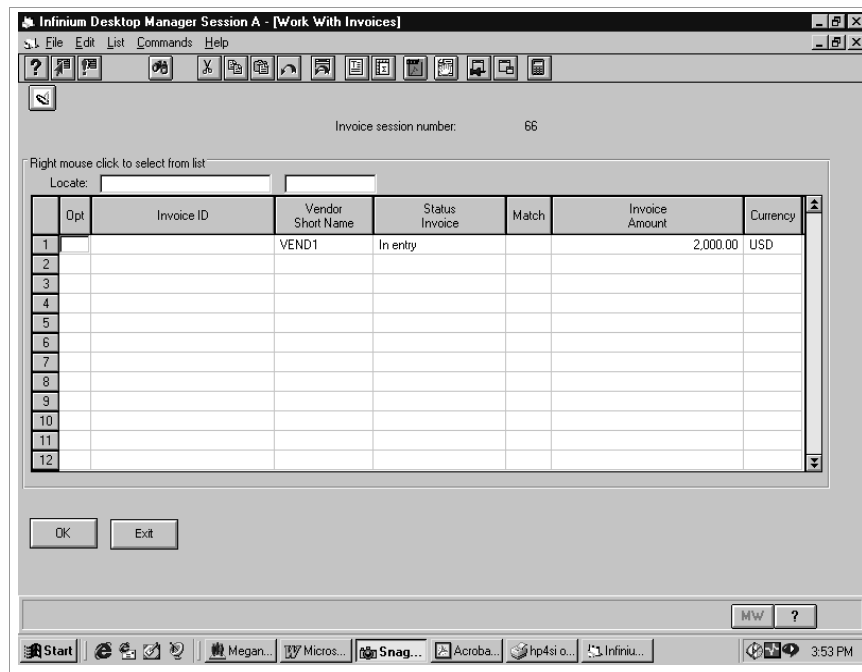

Figure 6-2: Work With Invoices screen
- 3 Select a purchase order invoice session. Select **Work with invoices** or type **5** and press Enter. The system displays the Work With Invoices screen, which is similar to Figure 6-2.
Correct the errors and press Enter again to return to the Work With Invoices screen illustrated in Figure 6-2. Correcting the errors may require using one or more of the actions available at the Invoiced POs and Receipts screen as described in the following topics.